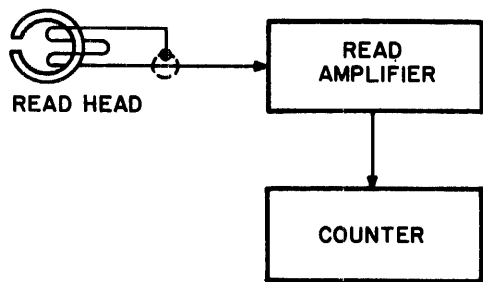

Figure 5-4.
Step 1: Connect equipment as shown in Figure 5-4 (set counter for a repetitive 100 ms count time) and thread test tape on transport.